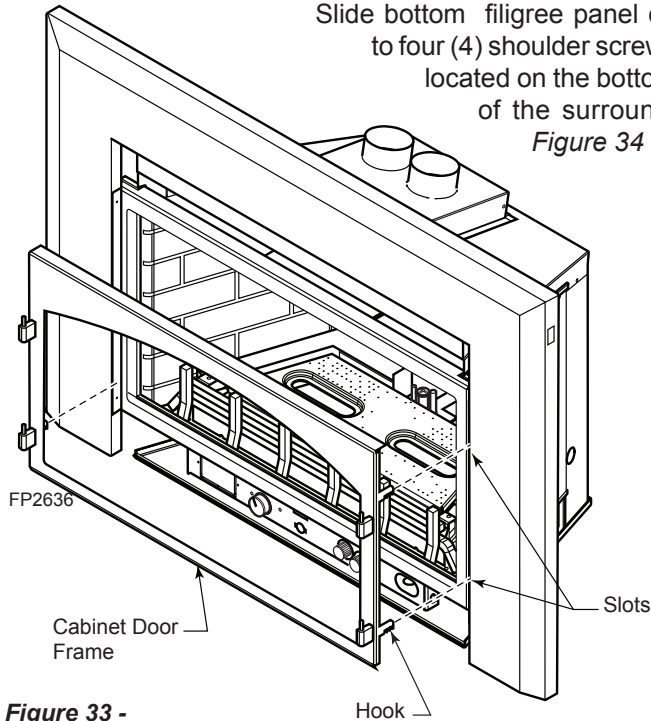

Figure 33 - Install Cabinet Door Frame
1. Slide cabinet door frame on to front of unit. Make sure the four (4) hooks of the cabinet door frame are inside four slots on front of unit. *Figure 33*